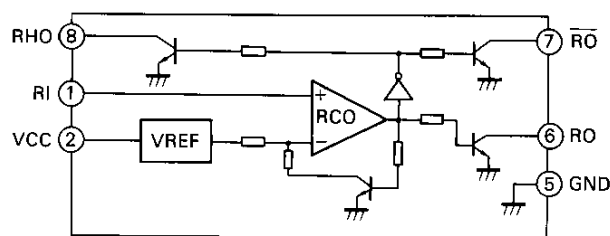
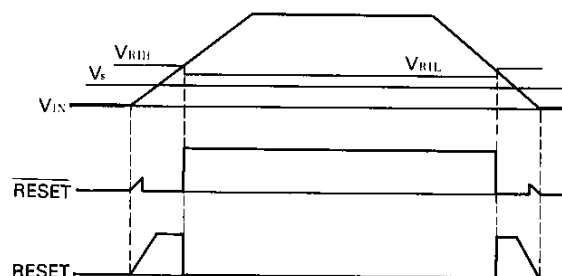
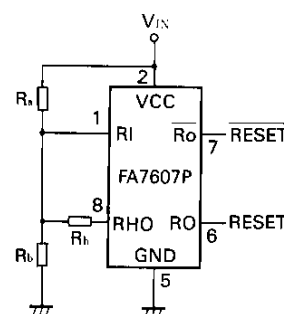

Fig. 1 Block diagram
Fig. 2 Timing chart
Fig. 3 Standard application circuit
Figure 1 shows the block diagram of the FA7607P bipolar IC. This IC mainly consists of a reference voltage circuit and a comparator. The comparator is designed not to malfunction even when the supply voltage is below the normal voltage range (about 2 to 4.5V). See Fig. 3 for the standard application circuit. The supply voltage V_{IN} is divided by a voltage divider consisting of two external resistors (R_a and R_b) and is applied to the input terminal (RI). The supply voltage is also connected to the power supply terminal VCC directly. Figure 2 shows variation of the supply voltage V_{IN} and changes of the RESET and RESET output statuses. The reset signal stop level V_{RIH} the supply voltage reaches after an increase can be calculated by the formula of (1). The RESET signal output transistor remains OFF and the RESET signal output transistor remains ON until the supply voltage exceeds the level.
The standard application circuit requires only two resistors outside the IC. This is shown in Fig. 3. However, since the output stage is an open collector, the system may require a pull-up resistor.